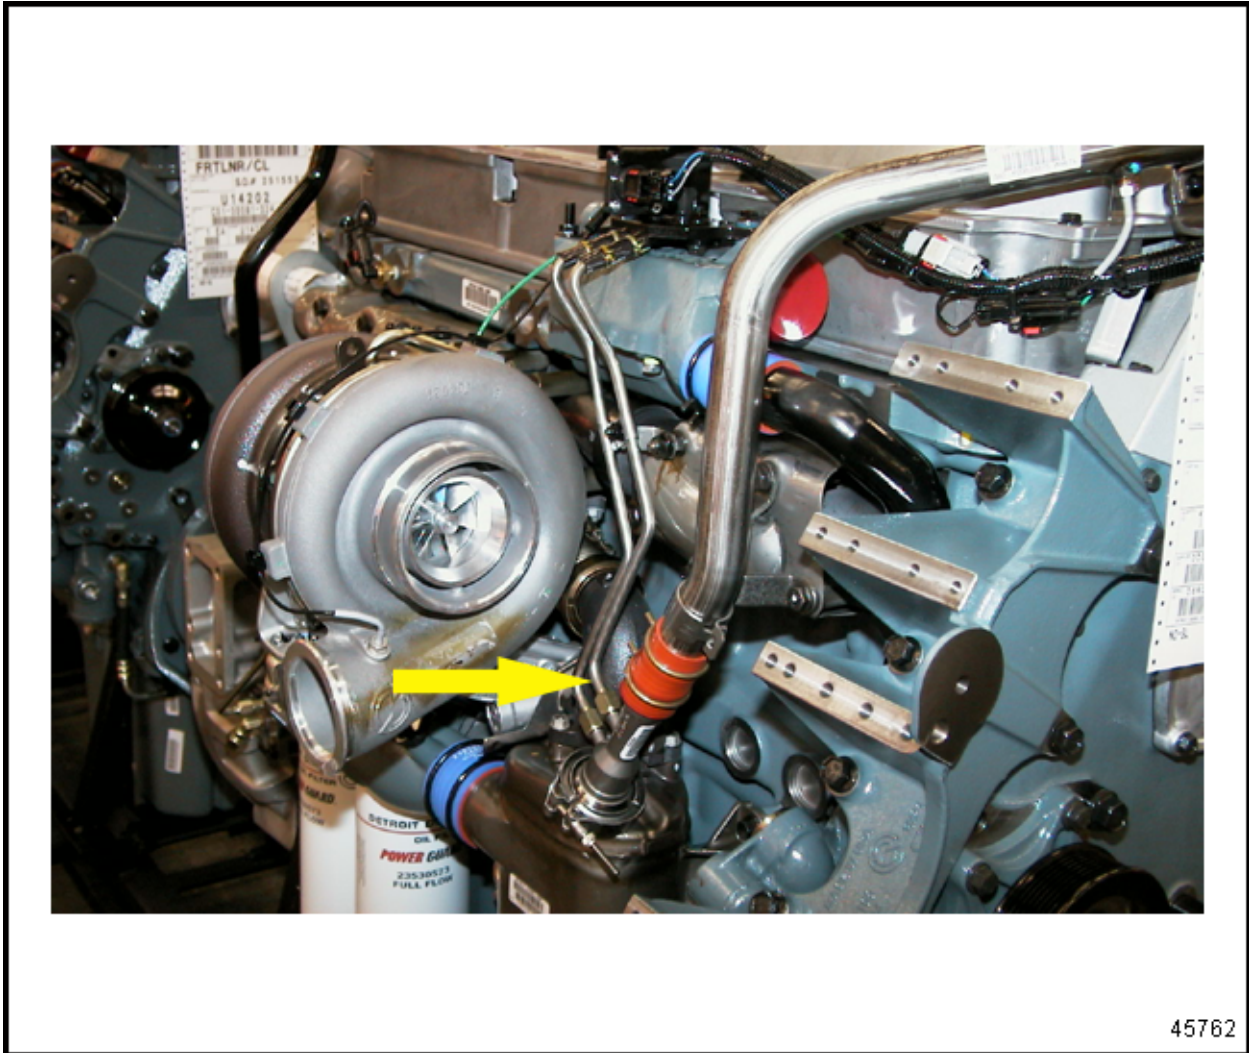

Figure 10-1 Location of Venturi Tube Hoses
- [a] If the recorded Delta P counts are 86-135, verify that the Venturi ports are not plugged and that the Venturi Tube-to-Delta P sensor, see Figure 10-1, are correctly installed and are not damaged. Repair as necessary, verify repairs. If no problem was found, proceed to step 3[b].
1. Disconnect the air hose from the VNT actuator. See Figure 10-1.